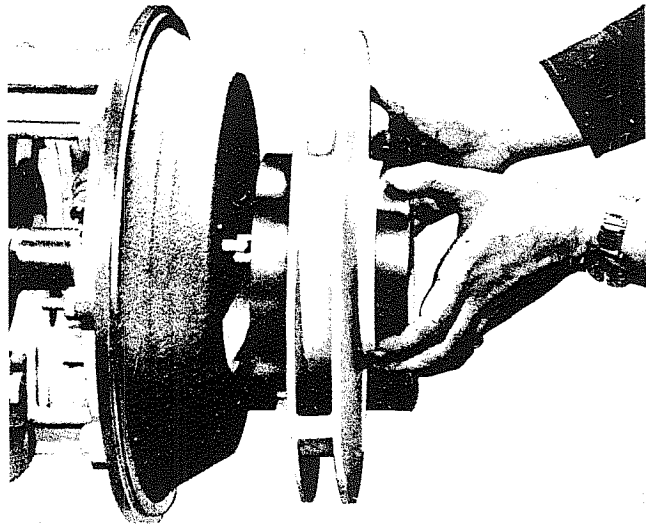

Fig. 1 — Impeller Removal
2. Remove the impeller nut (14). To do this, turn the impeller nut counterclockwise as viewed from the suction inlet.
3. Pull the impeller (13) from the shaft and remove the impeller key (19) (Fig. 1, "Impeller Removal")